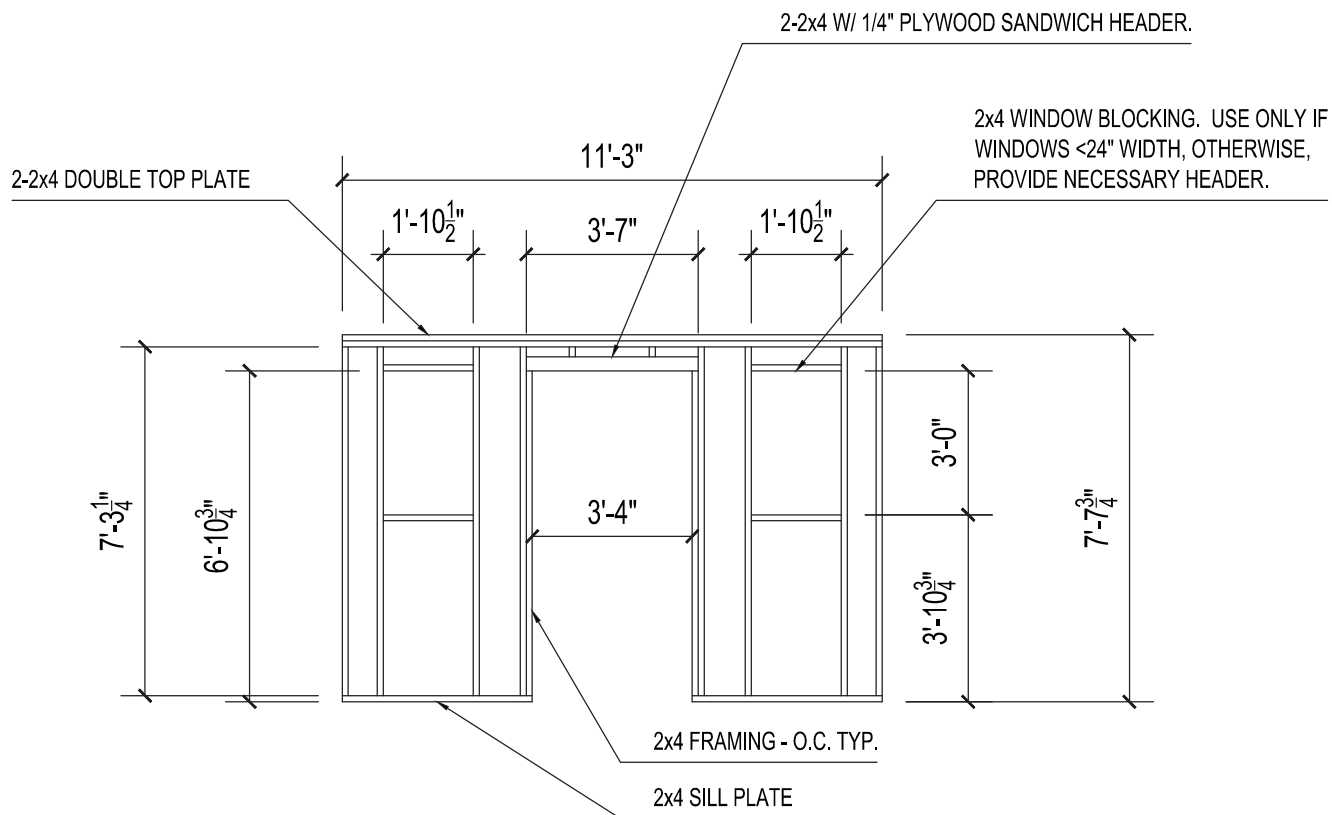
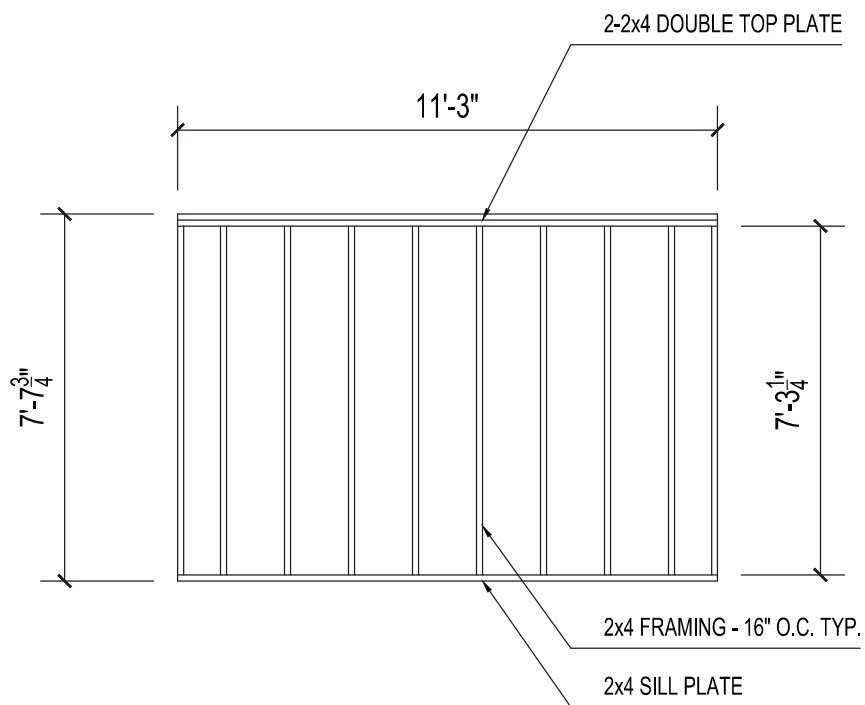

fig.10- Front Wall Framing
fig.11- Rear Wall Framing
- Cut 3 2x4 members to 7" short of the total length of the shed. See fig.10 (rear wall) or fig 11 (front wall) for the actual dimension.
- Cut all studs to 7'-3 1/4" (unless otherwise noted in fig.10 or fig.11) The number of studs can be found in fig.10.
- Mark the center of the wall studs on both the top and bottom members, spacing should be 16" on center. See fig.10 for layout.
- Cut two members to the width of the opening and nail in place per fig.10 or fig.11. Adjust positioning based on required framed opening. See manufacturer's requirements.
- Cut a 2x4 members to the width of the opening per fig.10 or fig.11. Adjust positioning based on required framed opening. See manufacturer's requirements.